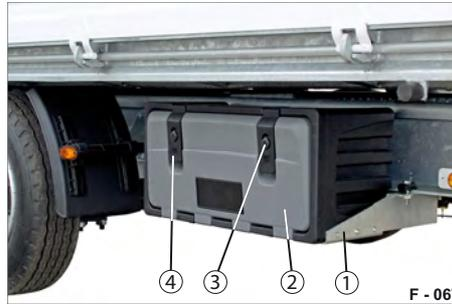
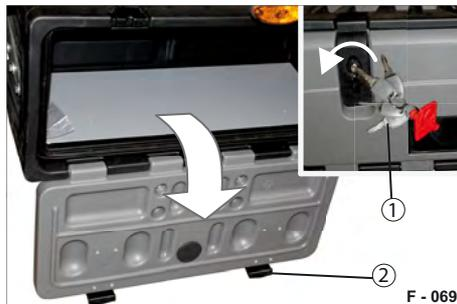

Fig. 92 Toolbox on chassis
Fig. 94 Toolbox open
- Remove the covers (Fig. 92/2) from the lock cylinders and close the lid (Fig. 92/1) with the key (Fig. 94/1).
- Pull out the locks (Fig. 94/2) from below and twist them downwards.
- Clasp the locks (Fig. 94/2) from above and press them downwards. This lid is locked.
- Lock with the key (Fig. 94/1) and fasten the cover over the key cylinder (Fig. 92/2). The toolbox is closed and secured.